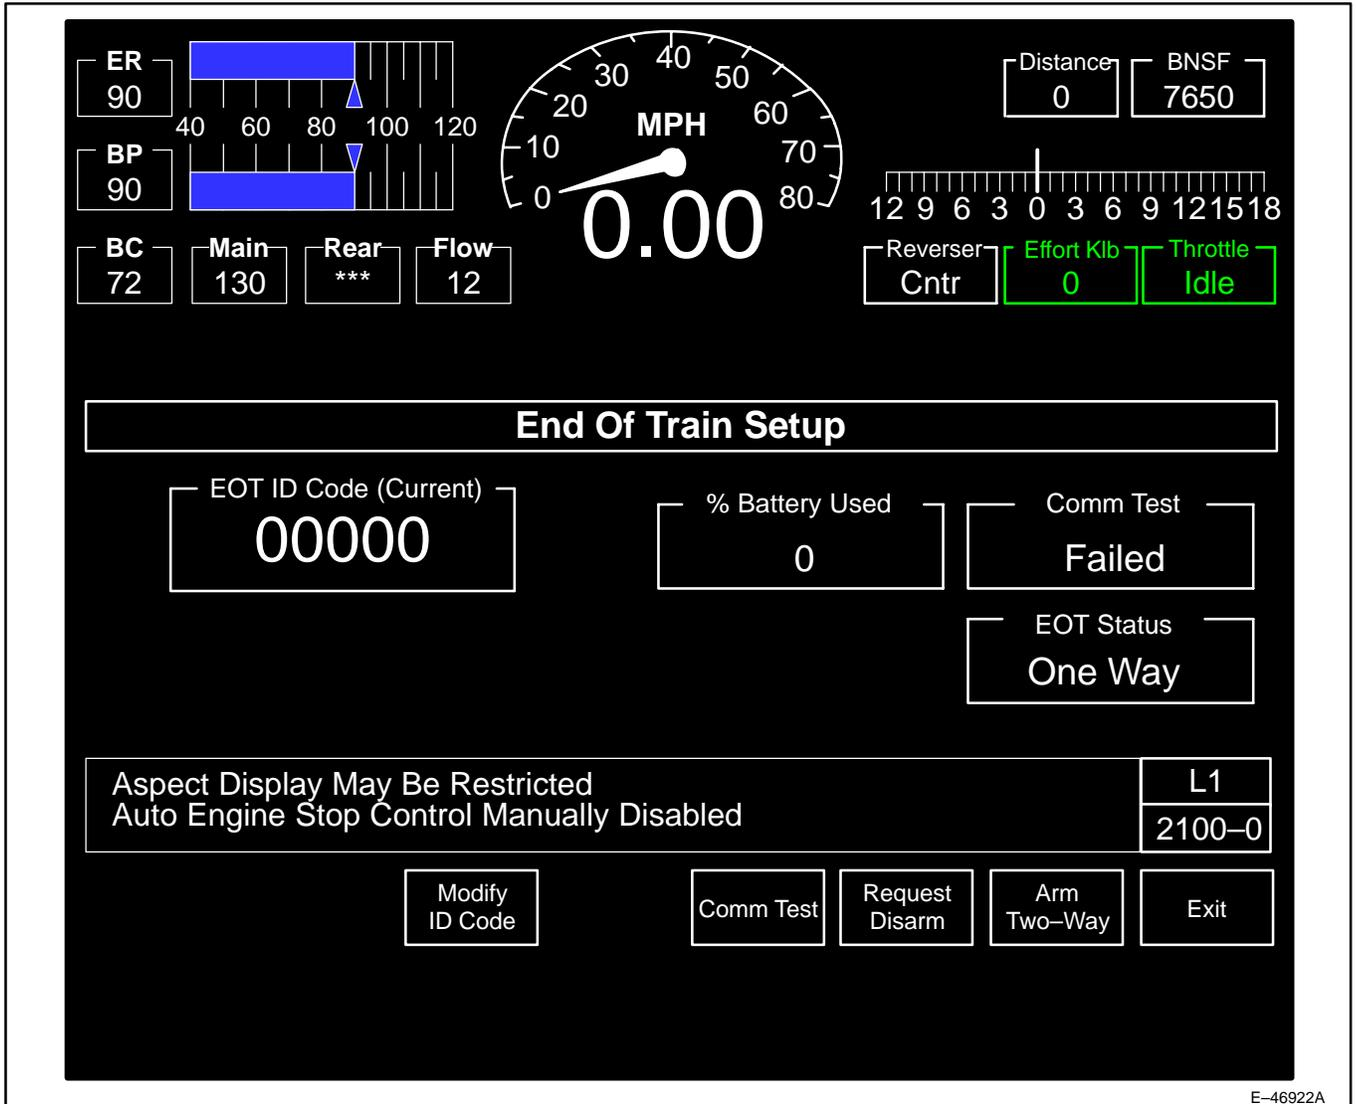

Figure 45. End Of Train Setup Screen (2100-0).
The End Of Train (EOT) function, through the HOTD (Head of Train Device), receives data from the rear-of-train-mounted transmitter/receiver or EOT device. This function allows the operator to gather pertinent system data and ensure adequate notification on trainline breaks. The setup screen (Figure 45) allows the operator to change the EOT ID and ensure EOT system communications.
Pressing soft key position F2 (**End of Train**) on the Main Operating Screen (screen 0000-0, see Figure 33, 35 or 37) will display screen 2100-0 (Figure 45). Follow *Railroad Operating Procedures* for this operation. The active keys and a brief description of operation are as follows:
1. On Power Up, if EOT and HOTD EOT Codes do not match, press F3 (**Modify ID Code**) and enter the correct EOT ID (Figure 45).